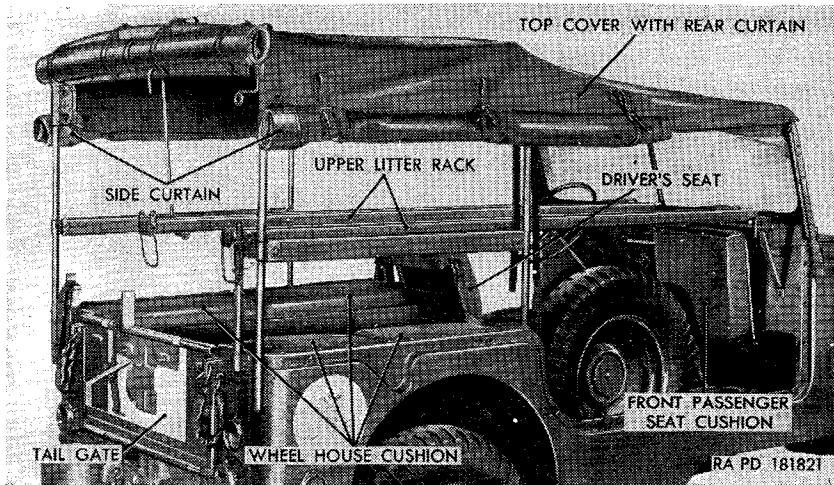

Figure 27. Rear curtain and side curtains in rolled-up position—Doors off (M170).
58. Top Cover With Rear Curtain and Side Curtains (fig. 27)